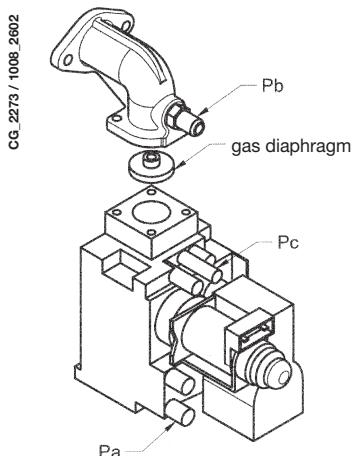

Figure 10
- connect the positive pressure test point of a differential pressure gauge (possibly water-operated) to the gas valve pressure test point (**Pb**) (Figure 10). Only for models with sealed chambers, connect the negative pressure test point of the manometer to a "T" fitting in order to join the boiler adjustment outlet, the gas valve adjusting outlet (**Pc**) and the pressure gauge. (The same measurement can be made by connecting the pressure gauge to the pressure test point (**Pb**) after removing the front panel of the sealed chamber);
- adjust the tube brass screw (a) until the pressure values shown in table 1 are obtained; make sure that the dynamic inlet pressure of the boiler, measured at the gas valve pressure test point (**Pa**) (Figure 10) is correct (37 mbar for propane or 20 mbar for natural gas).
If the natural gas inlet pressure is too low (less than 17 mbar) remove the gas diaphragm installed over the gas valve (fig. 10) and set parameter **F02=00** on the electronic board (§21).
- adjust the "**Pmax/Pmin**" screw (figure 10) to set the burner pressure value as described in table 1. To adjust pressure at maximum power, turn the "**Pmax**" screw (fig. 10) clockwise to increase or anti-clockwise to decrease pressure at the burner.
- adjust pressure at minimum power, turn the "**Pmin**" screw (fig. 10) clockwise to increase or anti-clockwise to decrease pressure at the burner.